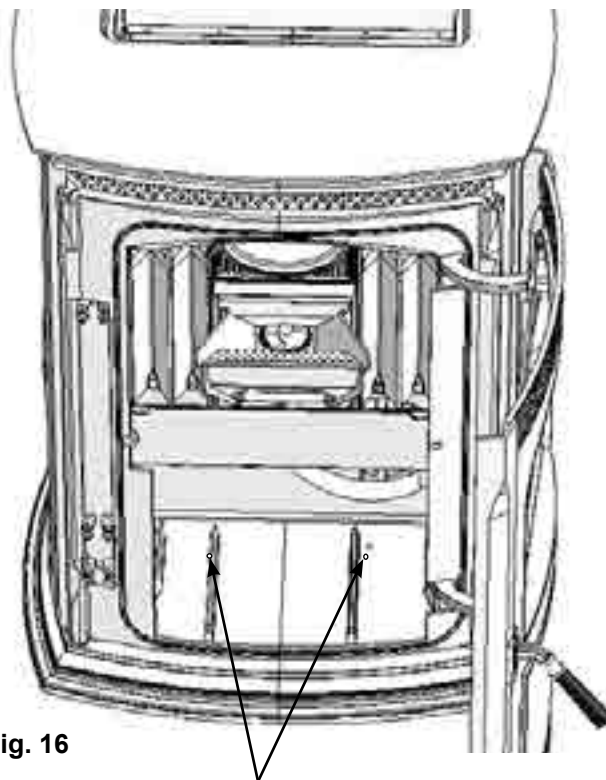

Fig. 16
1. The unit must be bolted to the floor. This can be done with 1/4" lag screws through the 2 holes in the base plate shown in Fig. 16
Canadian Standard ULC S627 requires that all outdoor-aided space heaters must be attached to the structure. See page 12, Fig 16.